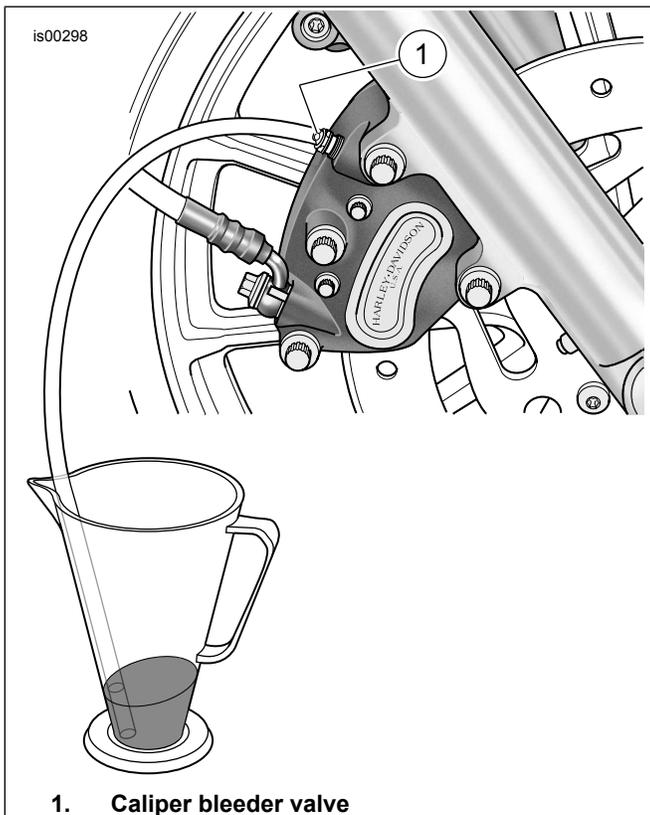

Figure 1. Draining Brake Fluid
3. Bleed the brake fluid from the front brake. See Figure 1. Open the bleeder screw cap on the front brake caliper. Obtain a length of plastic tubing. Install one end of the tubing over the caliper bleeder screw. Place the free end of the tubing into a suitable container.